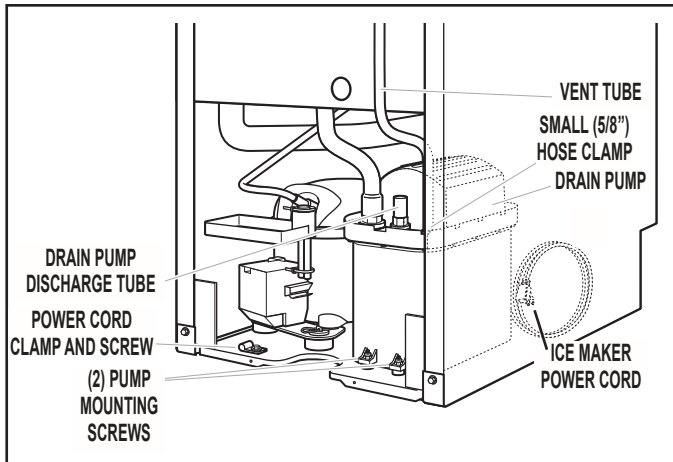

FIGURE 5
4. Install vent tube (5/16" x 32") to pump reservoir vent. Use 5/8" adjustable clamp, supplied. See Figure 5.
5. Remove power cord clamp and screw attached to ice maker power cord. This is located at the unit base. See Figure 5. Clamp and screw will be reused.
7. Line up the two (2) screw holes at the rear of the pump. Use two (2) of the screws supplied in kit. See Figure 5.
9. Coil ice maker power cord into a 4" diameter coil. Wrap electrical tape around the power cord in several places to keep the cord in a coil. Locate coiled cord between the drain pump and side of enclosure and plug into the receptacle of the drain pump. See Figure 5.
10. Attach the drain pump power cord to ice maker unit base with clamp and screw (removed in step 5) that was used to attach ice maker power cord. See Figure 5.
14. Attach 1/2" ID x 10' drain tube to drain pump discharge tube. See Figure 5.